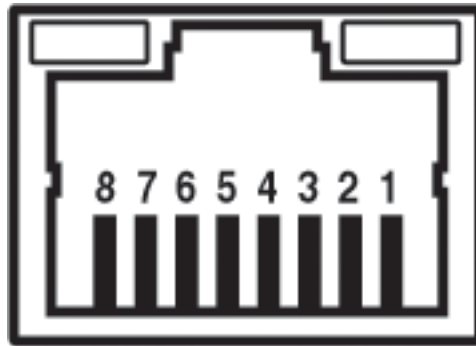

FIGURE 9 10 BASE-T CONNECTOR
Using a straight through RJ-45 cable connect the Model 8188 10 Base-T port to a hub on the network. The upper left LED indicator on the 10 Base-T connector, shown in Figure 9, will illuminate when a Good Link (GL) is detected.